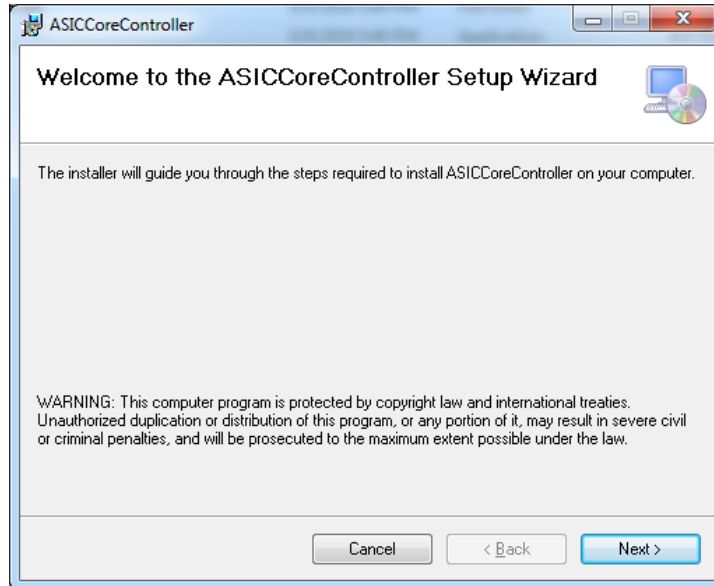

Figure 4-1 Software installation interface 1
1. Firstly, double-click the application installation file  setup.exe for installation to pop up an installation window, click the button "Next" for installation at the next step, as shown in Figure 4-1.